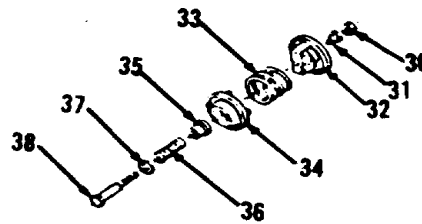
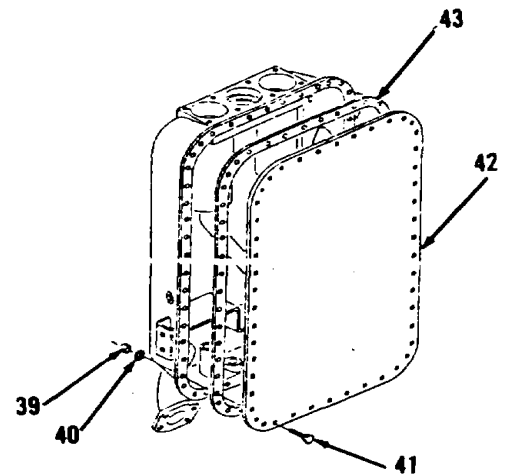
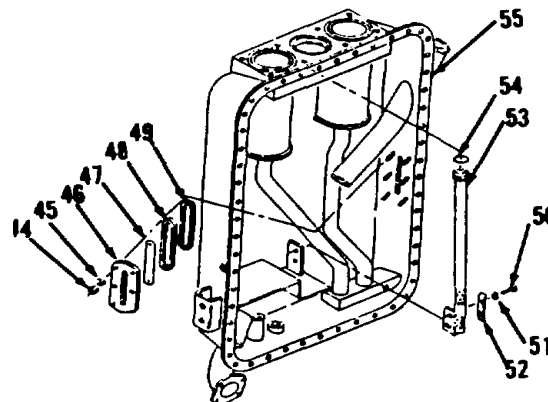

Figure 10-154.
Figure 10-155.
Figure 10-156.
5. Remove two lock nuts (30), spacers (31), retainers (32), springs (33), seats (34), valves (35), springs (36) and retainers (37) from bolts (38, Figure 10-154).
6. Remove 48 nuts (39), washers (40), bolts (41) and cover (42, Figure 10-155). Matchmark cover (42) as to top or bottom to aid in installation.
7. Remove and discard gasket (43). Remove all gasket material from mounting surface.
8. Remove six nuts (44), washers (45), retainer (46), plate (47), grommet (48) and glass (49, Figure 10-156).
9. Remove two bolts (50), washers (51), lock (52), tube (53) and preformed packing (54). Discard preformed packing (54).
1. Install new preformed packing (54), tube (53), lock (52), two washers (51) and bolts (50) on tank (55, Figure 10-156).
2. Install glass (49), grommet (48), plate (47), retainer (46), six washers (45) and nuts (44).
3. Install new gasket (43, Figure 10-155).
4. Aline matchmark to install cover (42), 48 bolts (41), washers (40) and nuts (39). Tighten 48 nuts (39) to 28 ft-lb torque.
5. Install two retainers (37), springs (36), valves (35), seats (34), springs (33), retainers (32), spacers (31) and lock nuts (30) on bolts (38, Figure 10-154).